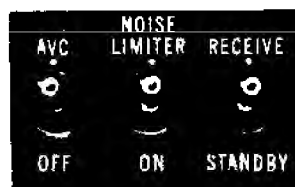

Figure 4. View showing three toggle switches
3. Set the three toggle switches in the up position. (See Fig. 4.)